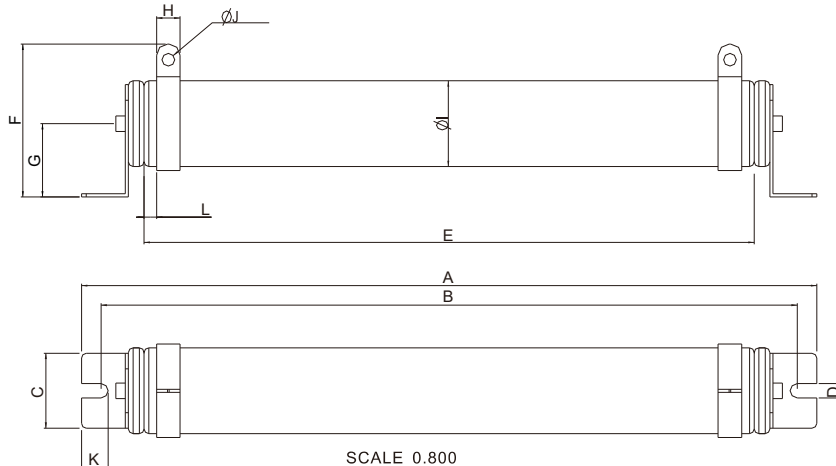

Figure 7-1
- 1-1 Wire Wound Resistors: For 1000W (included) and above, see Figure 7-1 for product appearances and Table 7-1 for model and specification comparison.